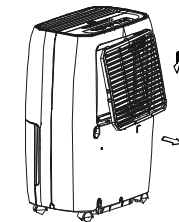

Fig.8
- Grip the tab on the filter and pull it upward, then pull it out as shown in Fig.8.